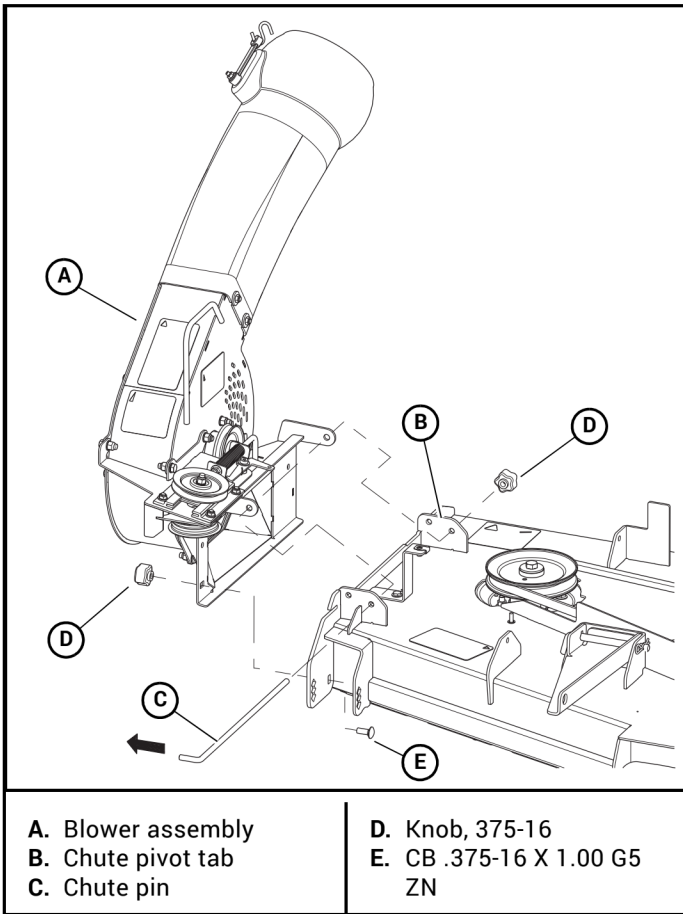

Figure 3-23
31. Attach the blower assembly to the deck. Figure 3-23
IMPORTANT: Make sure the head of the chute pin is pointing towards the blower unit. Figure 3-23